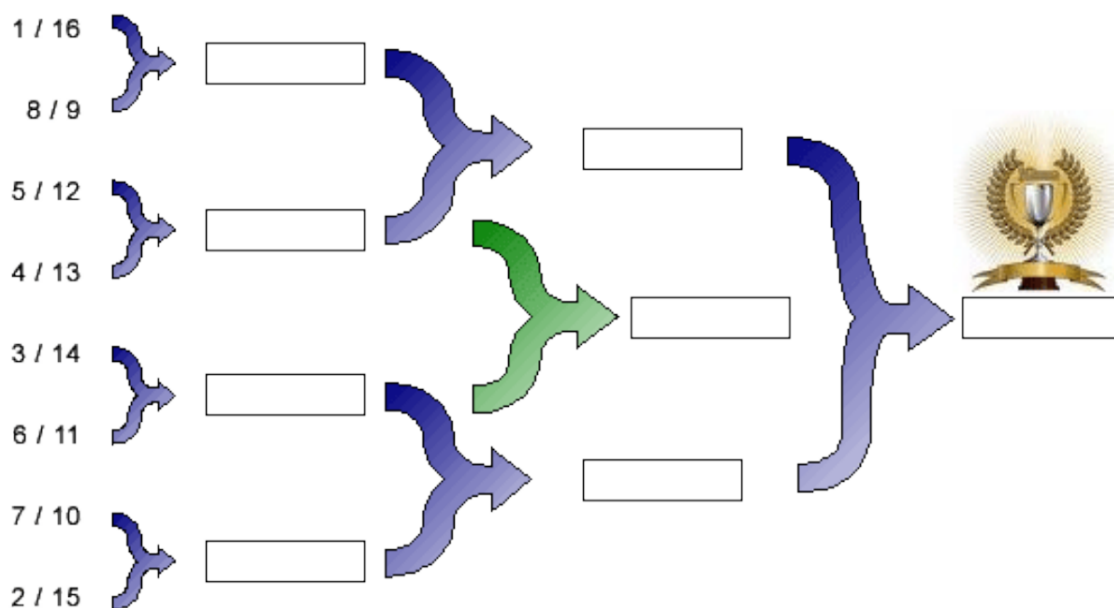

Figure 15 – Example of the tree for the final phase
Each team that wins its play-off match will be included in the main draw of the final phase of the match (B). At the end of the play-off phase, the tree of the final phase of the match (B) presented in Figure 15 may be revised to more accurately represent the level of each team.